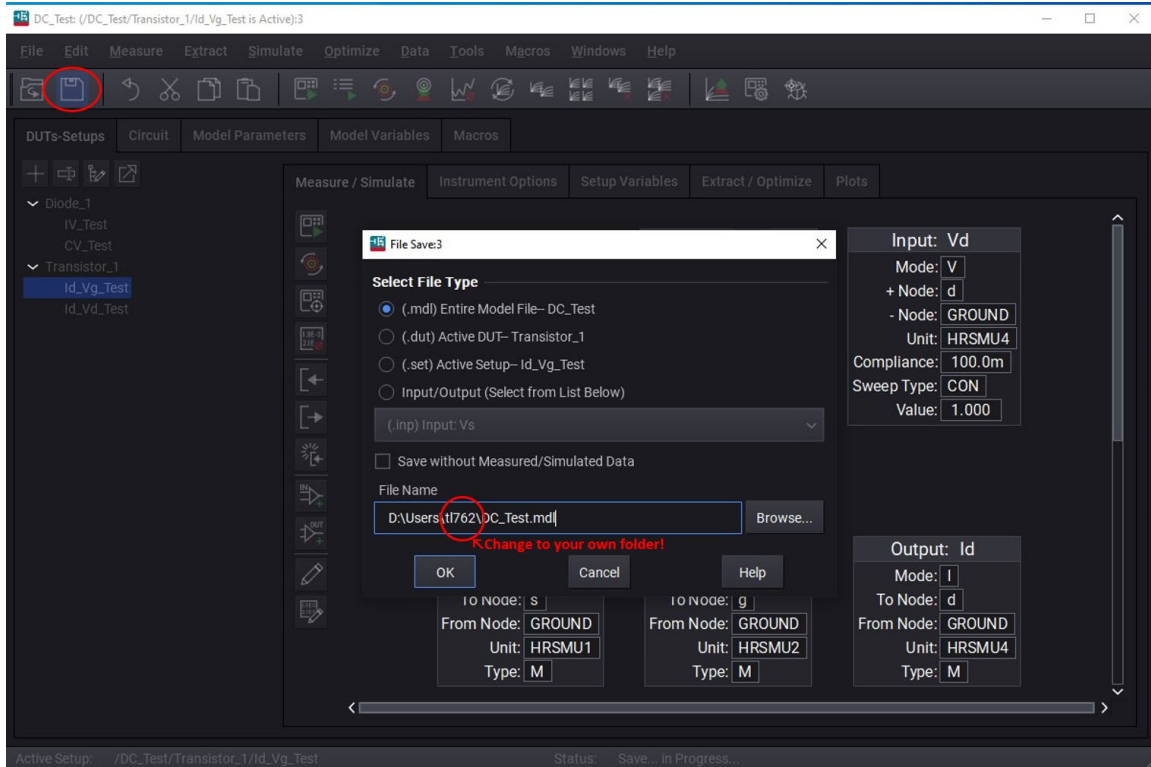

Fig. 8.9. Saving a "Test" project. Update figure
- 8.25 Save your project to your folder on the PC. IC-CAP will not auto-save your project. IC-CAP will not auto-save your project. To do so, click on "File" on the top menu of the "Test" home screen (Fig. 7.1). Fig. 8.9 pops up. It is recommended the "Select File Type" remains ".mdl" but "File Name" points to your own folder. Click on "OK" to save the project. if no more measurement will be done, exit IC-CAP by closing all windows. Leave the PC on.